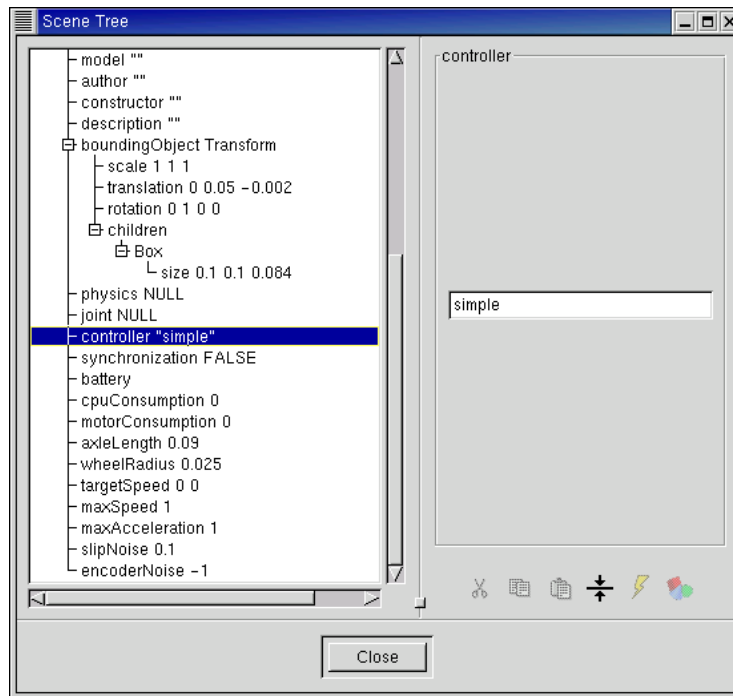

Figure 4.13: The other fields of the DifferentialWheels node
5. Values for other fields are shown in figure 4.13 and the finished robot in its world is shown in figure 4.14.